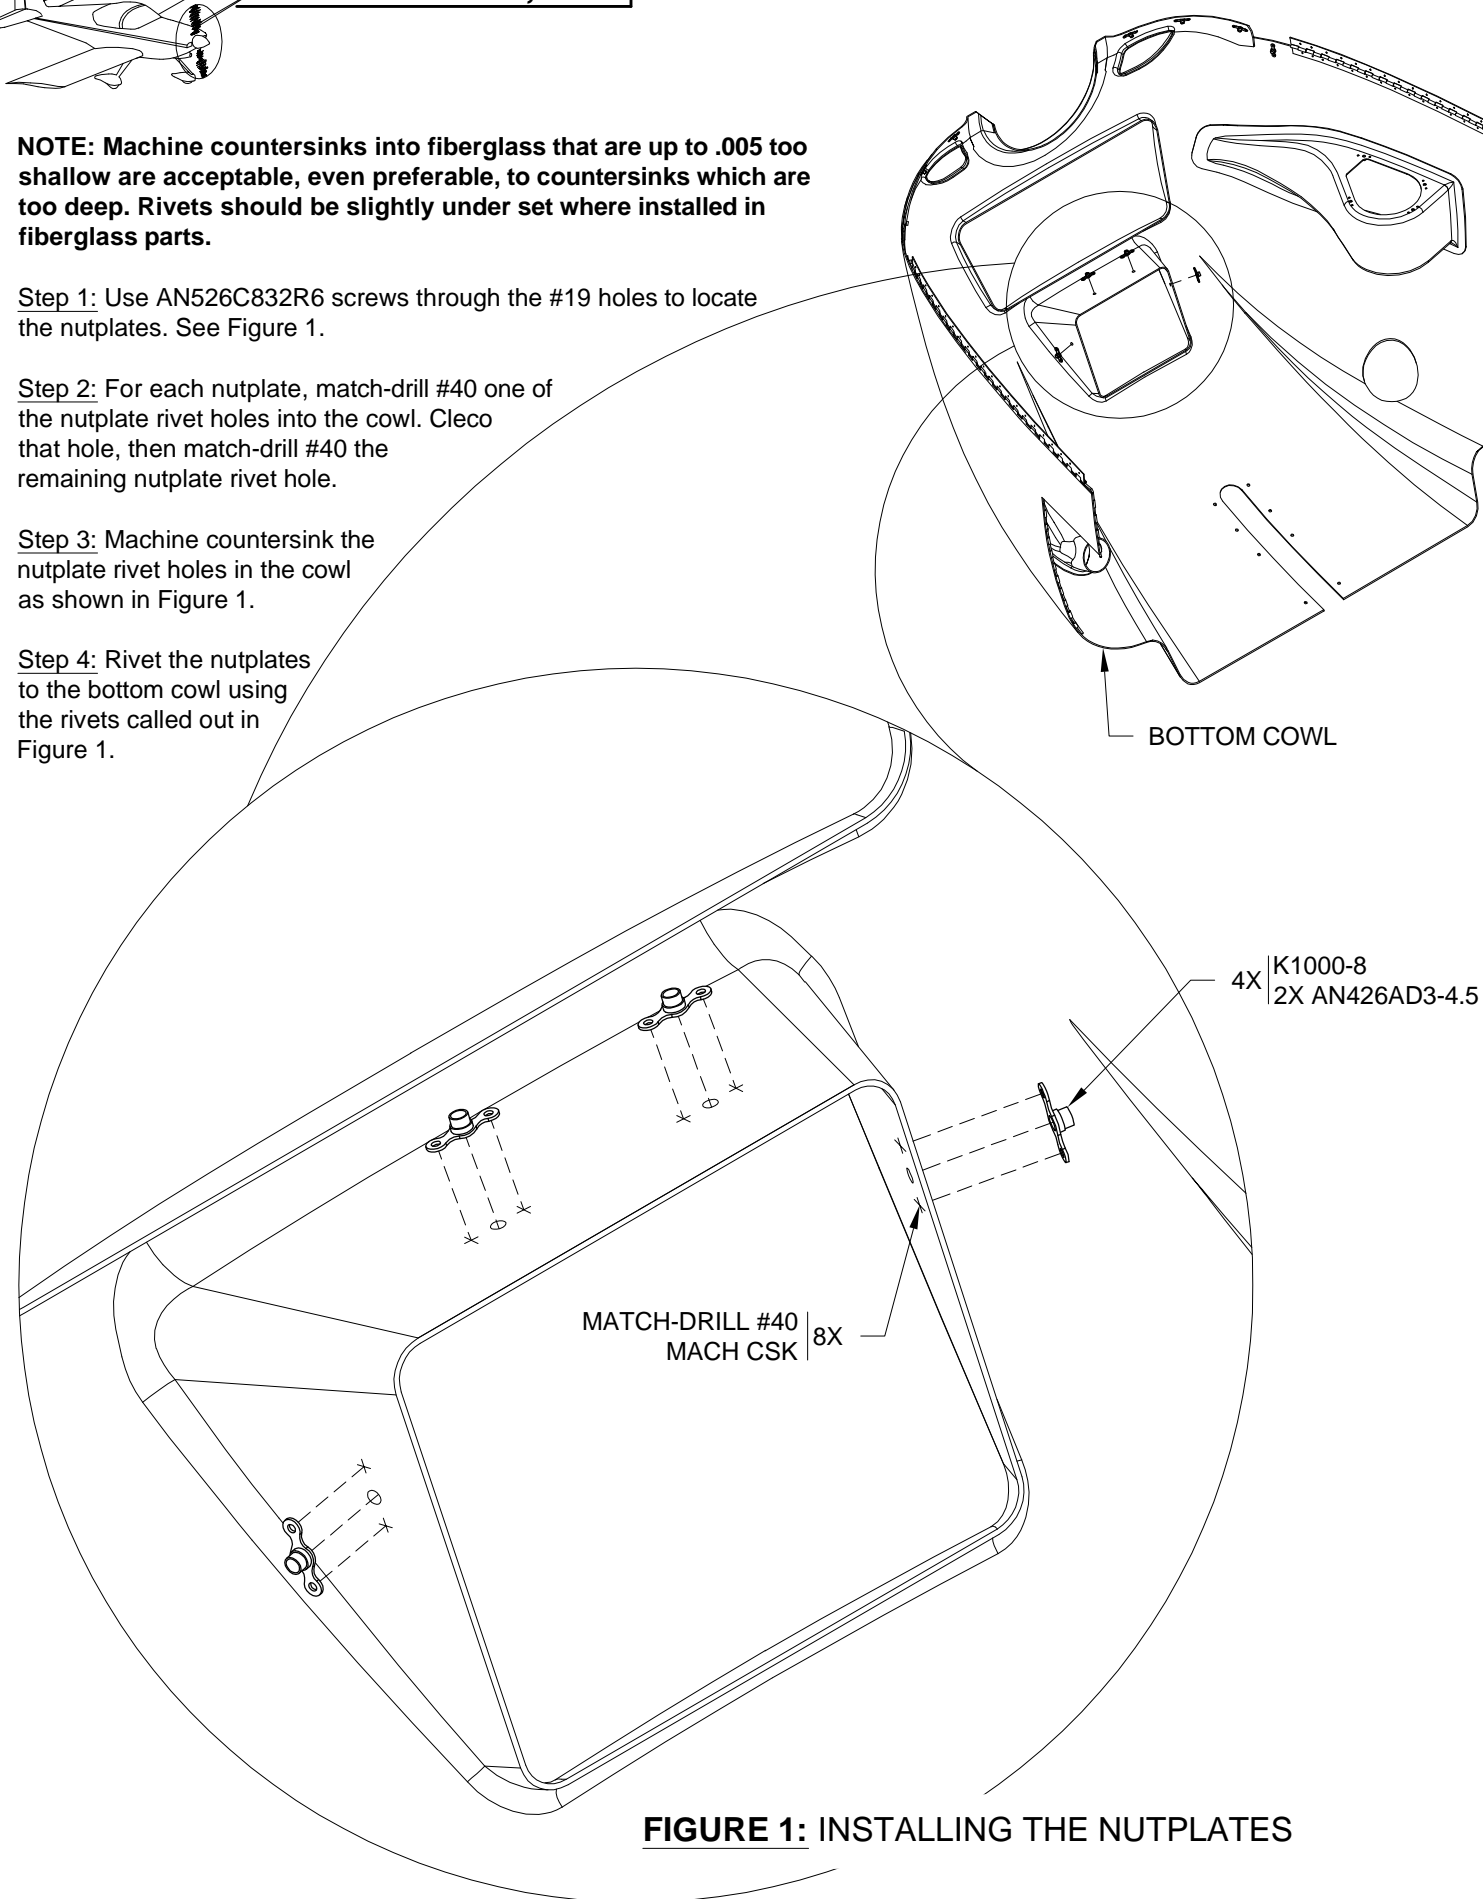

FIGURE 1: INSTALLING THE NUTPLATES
Step 3: Machine countersink the nutplate rivet holes in the cowl as shown in Figure 1.
Step 4: Rivet the nutplates to the bottom cowl using the rivets called out in Figure 1.